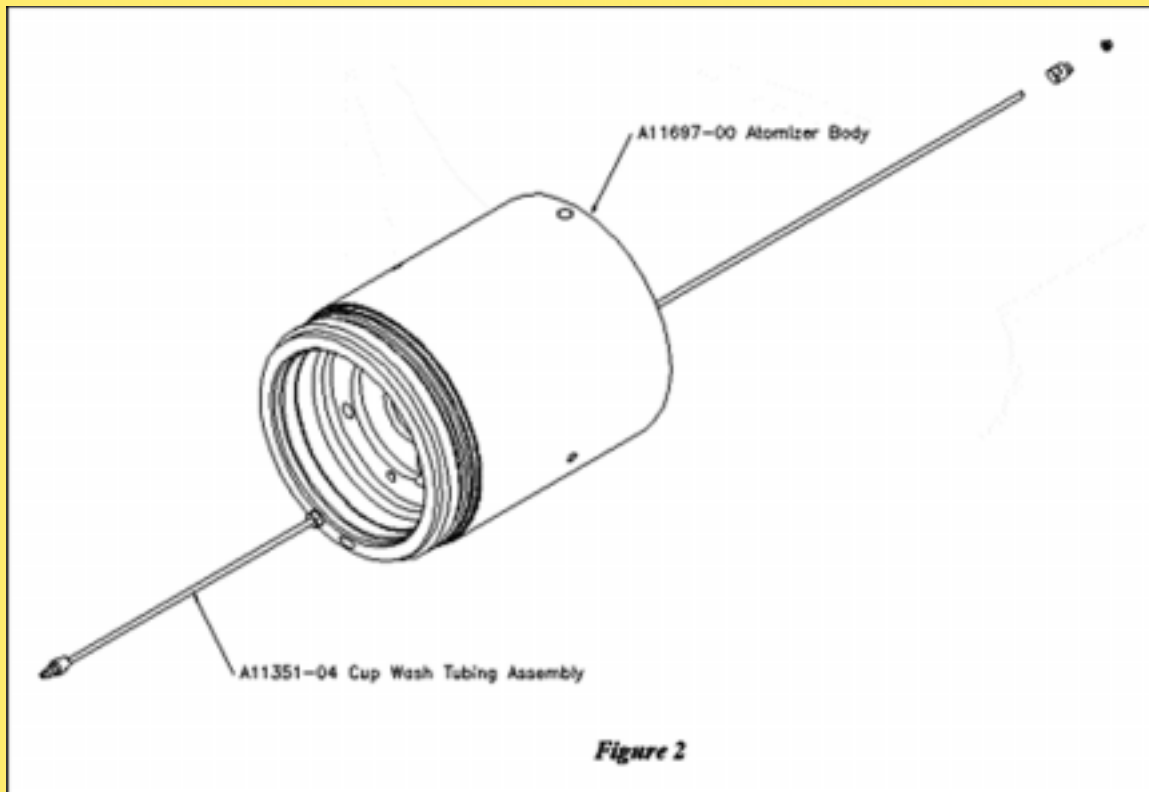

Figure 2
The changed part is the Cup Wash Tube Assembly (P/N A11351-02) and it is replaced by the Cup Wash Tube Assembly (P/N A11351-04). The Cup Wash Tube Assembly (P/N A11351-04) is installed by passing the tube through the Atomizer Body (P/N A11697-00) as shown in Figure 2. Two (2) Nuts and Two (2) Ferrules are installed on the front end of the Tube Assembly and one (1) Nut and one (1) Ferrule is installed on the rear of the Tube Assembly (after it is slid through the Atomizer Body). The front end is then attached to the Shape Air Ring and the Atomizer Body, using the Nuts and Ferrules, and the rear end is attached to the remaining hole in the previously installed "Y" Fitting using the Nut and Ferrule.